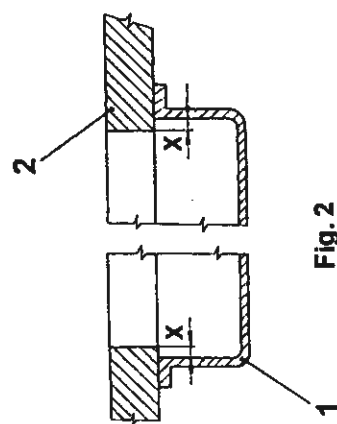

Fig. 2
Insert into the recesses (2 and 3, Fig. 5) the rubber inlays serving for mounting the machine head into the stand plate, and preferably fix them by sticking them on. When mounting the oil tank (1, Fig. 2) be sure that the inner side of its walls is overlapped by the value "X" by the circumference of the slot of the stand plate (2).